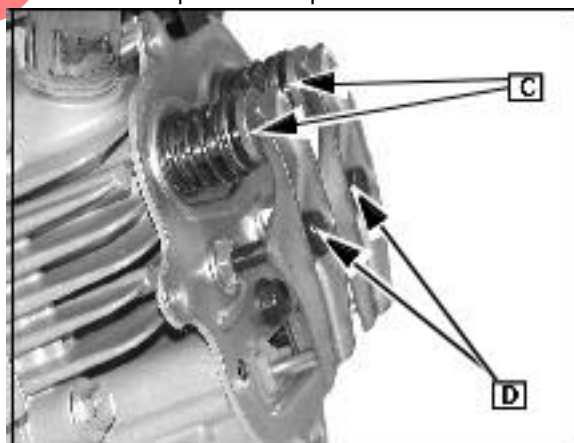

Fig. 33
Place valve caps ([C] Fig. 33), (when used) on end of valve stems.
Place rocker arms on studs. Install rocker arm nuts (D) and screw while holding rocker arm against valve cap ([C] Fig. 33).